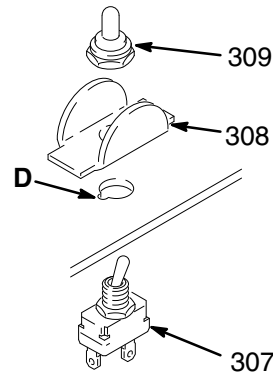

Fig. 16
On/Off Switch Replacement (Fig. 16)
4. Using a 5/8 in. socket wrench, remove the nut and rubber boot (309). Remove the switch guard (308). See Fig. 16.
5. Remove the ON/OFF switch (307).
6. Install the new switch so the internal tab of the pressure control housing (D) engages with the vertical groove in the threads of the switch.
7. Install the switch guard (308), aligning the internal tab with the groove in the threads.
8. Powder the inside of the rubber boot (309) with talcum powder, then shake the excess out of the boot.